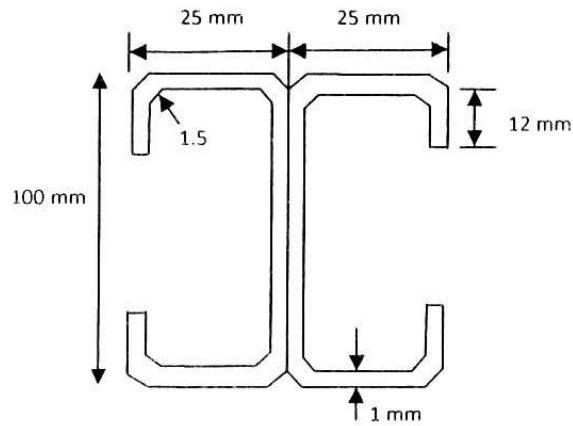

Fig. 2
7. Compute the axial load for the column with the section shown in figure 2, when $f_y = 230 \text{ N/mm}^2$ and unsupported length of the column is 6m. (20)
8. The beam shown in the figure 2 carries a uniformly distributed load and has a span of 2.0 m. Compute the allowable load on the beam and design suitable welds connecting the two channels. The beam is laterally supported at support points only. (20)